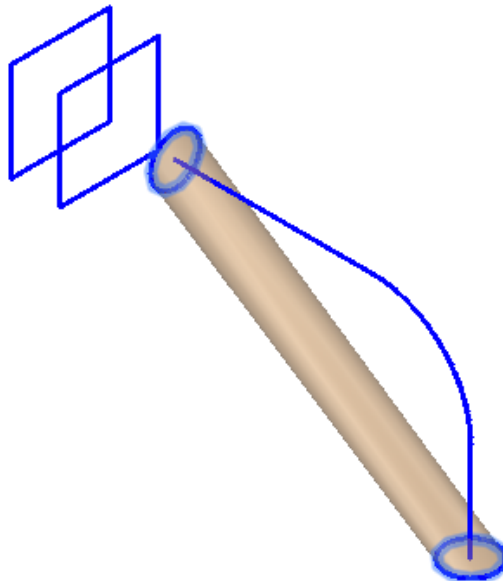

Figure Step 23A
Step 23 Enter the LOFT command, as shown below, to draw a loft between two cross sections that follow a path. Select the two circles for the cross sections, and the pline as the path. (Figure Step 23A and 23B)